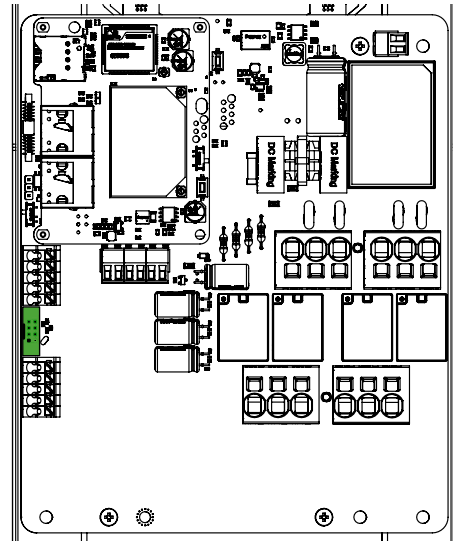

Fig. 18: PilotBox RCM B socket.
1. Connect the device to the dedicated socket on the PilotBox board. [Fig. 18]